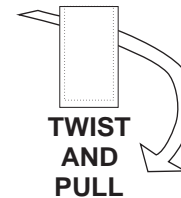

fig. 1
- Remove the protective cap by gently twisting and pulling it off the body of the probe (see fig. 1).